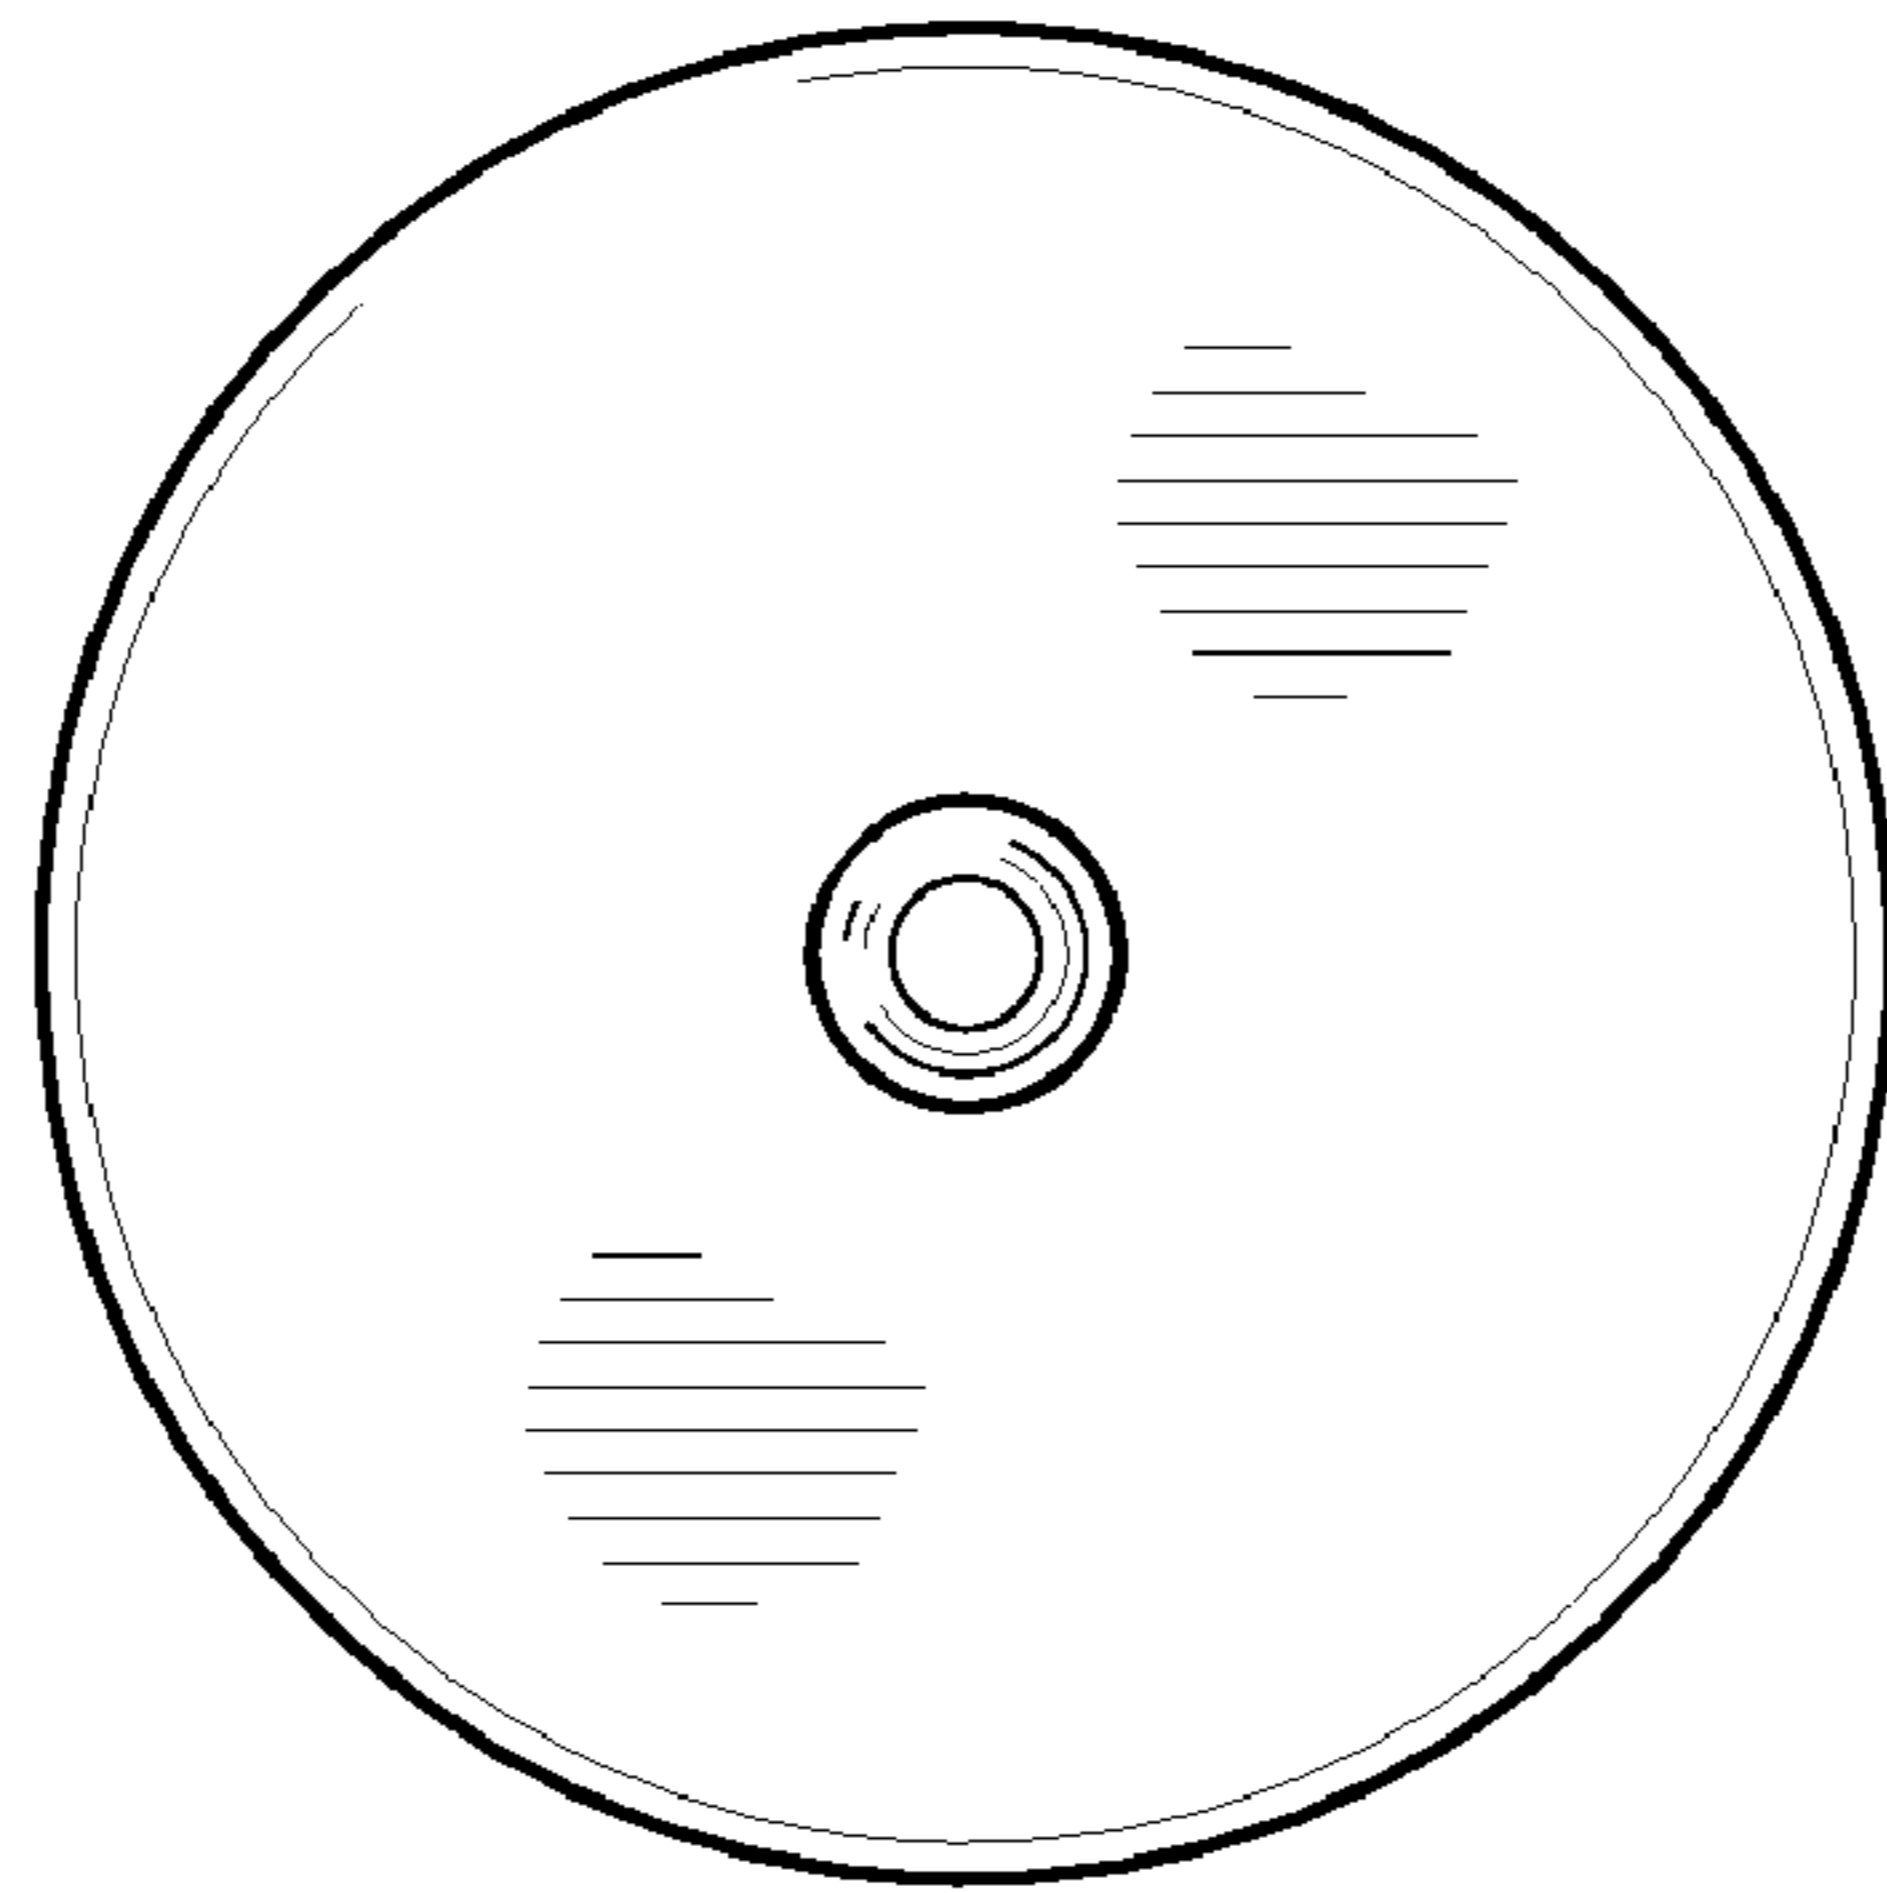

FIG. 7
- FIG. 7 is a plan view showing the housing from the bottom;